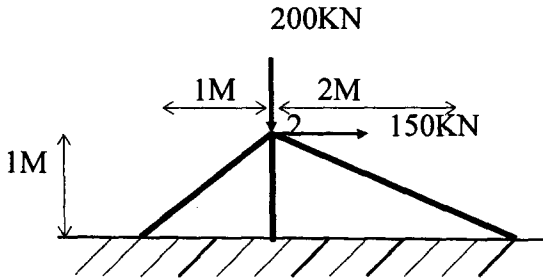

Figure Q1
1. Determine the displacements at nodes of the truss shown in Figure Q1. Use the following data: Modulus of Elasticity  $E=2 \times 10^{11}$  N/m2, Cross-section area of Member 1-2:  $4 \times 10^{-4}$  m2, Member 2-3:  $4 \times 10^{-4}$  m2, Member 2-4:  $6 \times 10^{-4}$  m2